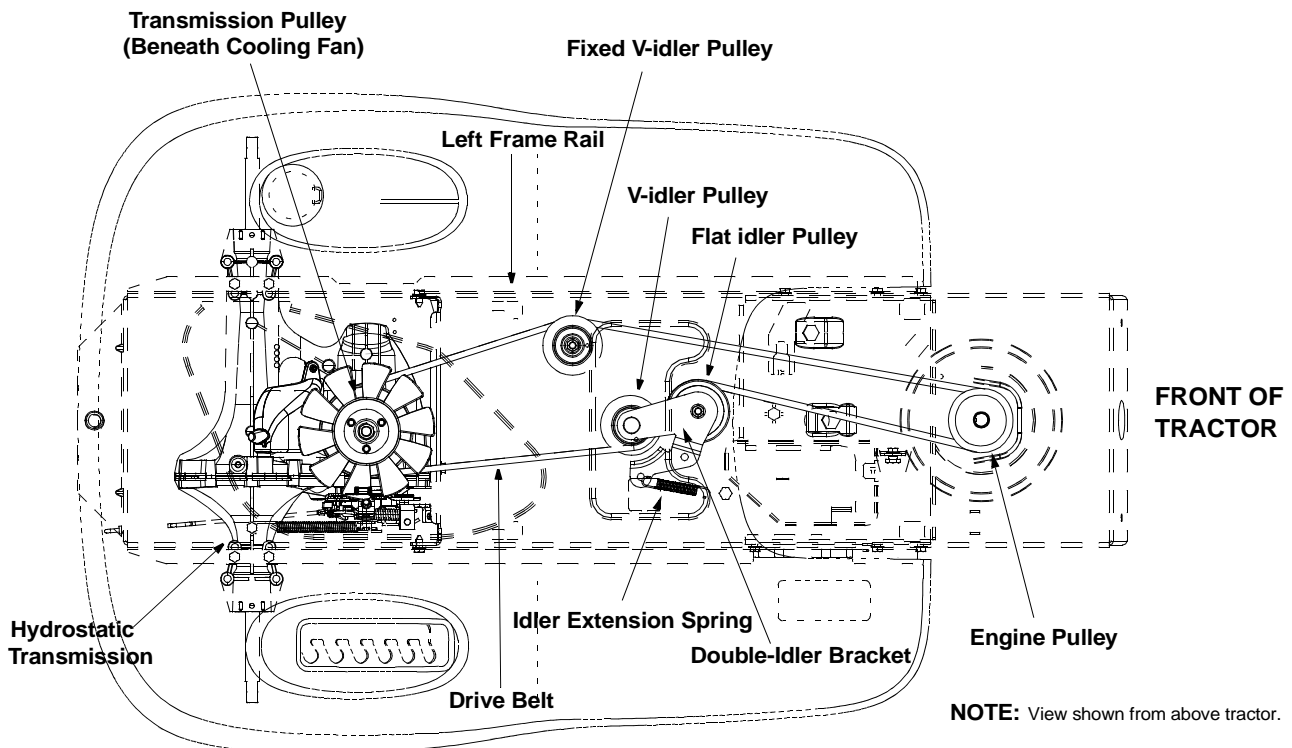

Figure 15
- Locate the fixed V-idler pulley found on the left underside of the frame. See Figure 15.
- Grasp the belt on both sides of the pulley and gently move it toward the left frame rail allowing it to unseat itself from the fixed v-idler. See Figure 15.
- Remove the drive belt by feeding it from front to rear, toward the hydrostatic transmission. See Figure 15.
- Reroute the new belt around the pulleys and belt keepers, if present, exactly as the old one was routed. Refer to Figure 15.